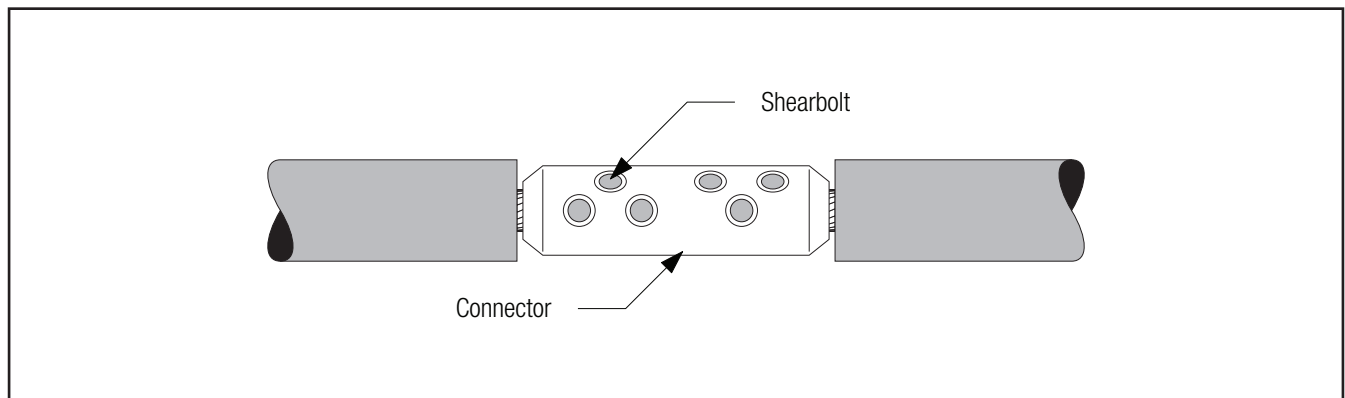

Figure 7
- 3.2 Install 3M Shearbolt Connector QCI 2-250 according to the instructions included with the connector (*Figure 7*).